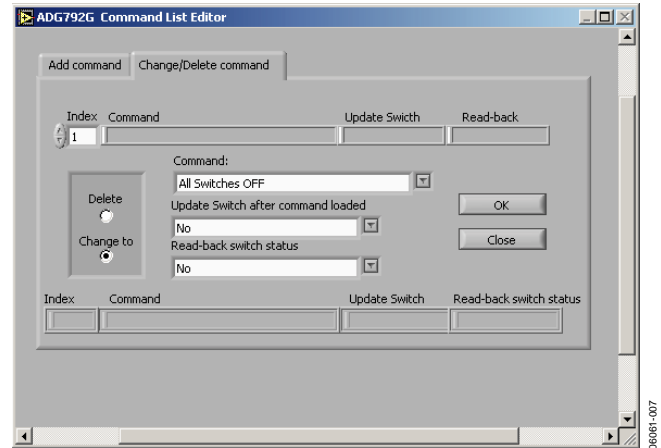

Figure 7. Change/Delete Command Window
5. If edits are required to the command list, click the **Change/Delete command** tab. The window in Figure 7 then appears.